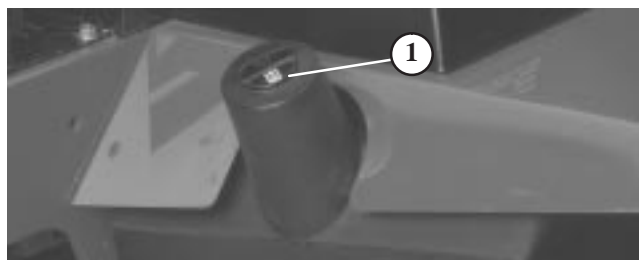

Figure 20
2. Clean area around filler neck and cap of hydraulic tank (Fig. 20). Remove cap from filler neck.